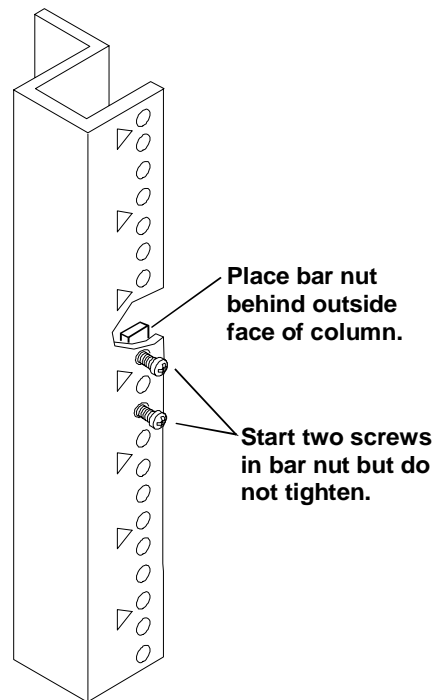
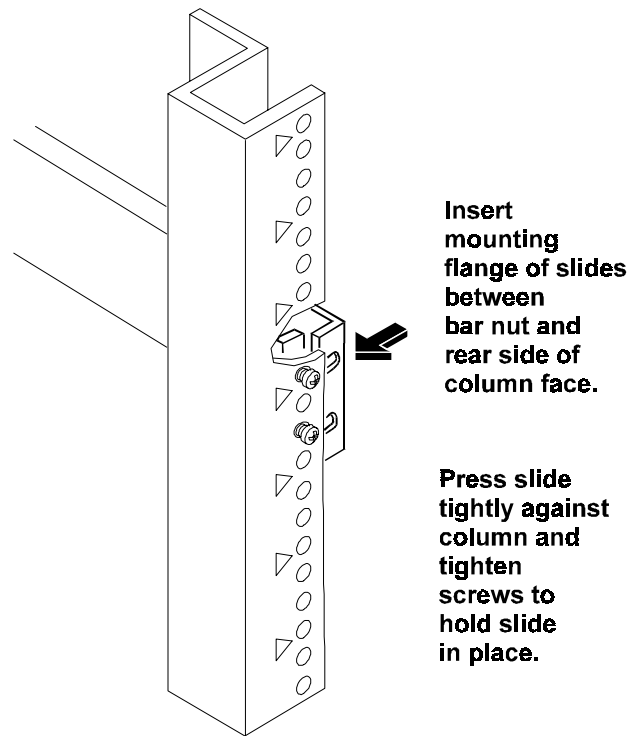

Figure 8-5. Where to Place Bar Nuts
Figure 8-6. Securing Slide to the Front Column
- ◇ The "bar nut" is a two-holed metal bar used to secure the mounting flanges of the slide to the rack columns (see Figure 8-5).
- ◇ The mounting flange is then positioned behind the column face, but in front of the bar nut (see Figure 8-6).
- ◇ Insert screws through the rack column and start them in one bar nut at the correct location on each column (see Figure 8-5). Prepare to insert the mounting flange of the slides between the column and the bar nut. (Refer to Figure 8-6.)
- ◇ Start screws in one bar nut at the correct location on the front columns. Leave the screws loose enough to accept the slide mounting flange. Refer to Figures 8-5 and 8-6.